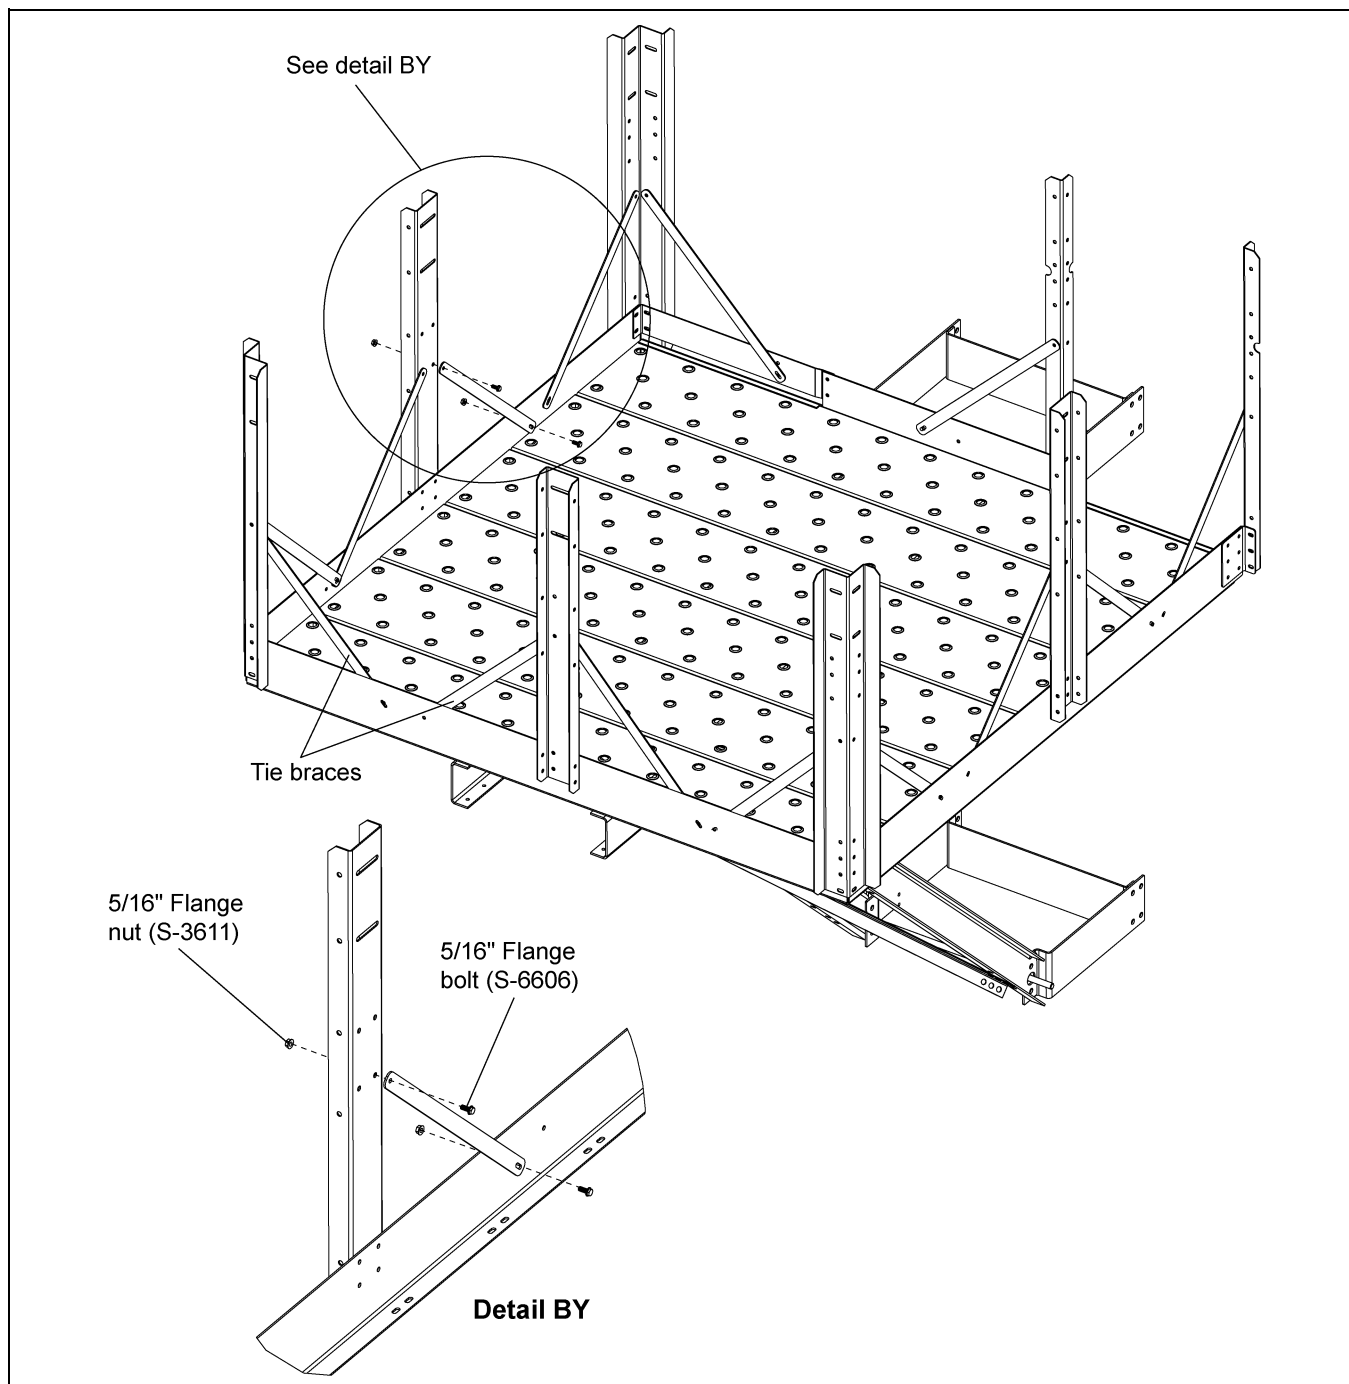

Figure 10K
Between each of the three (3) "W" corner posts (HP1648HWP), platform post (HP1648HCP) and safety gate side post (HP1648HP), attach two (2) tie braces (safety cage bar (LDR-5171BE)) from the lower half of the post to toe boards using 5/16"-18 x 3/4" ZN grade 5 bolts (S-6606) and 5/16"-18 YDP grade 2 flange nut (S-3611). (See Figure 10K.)